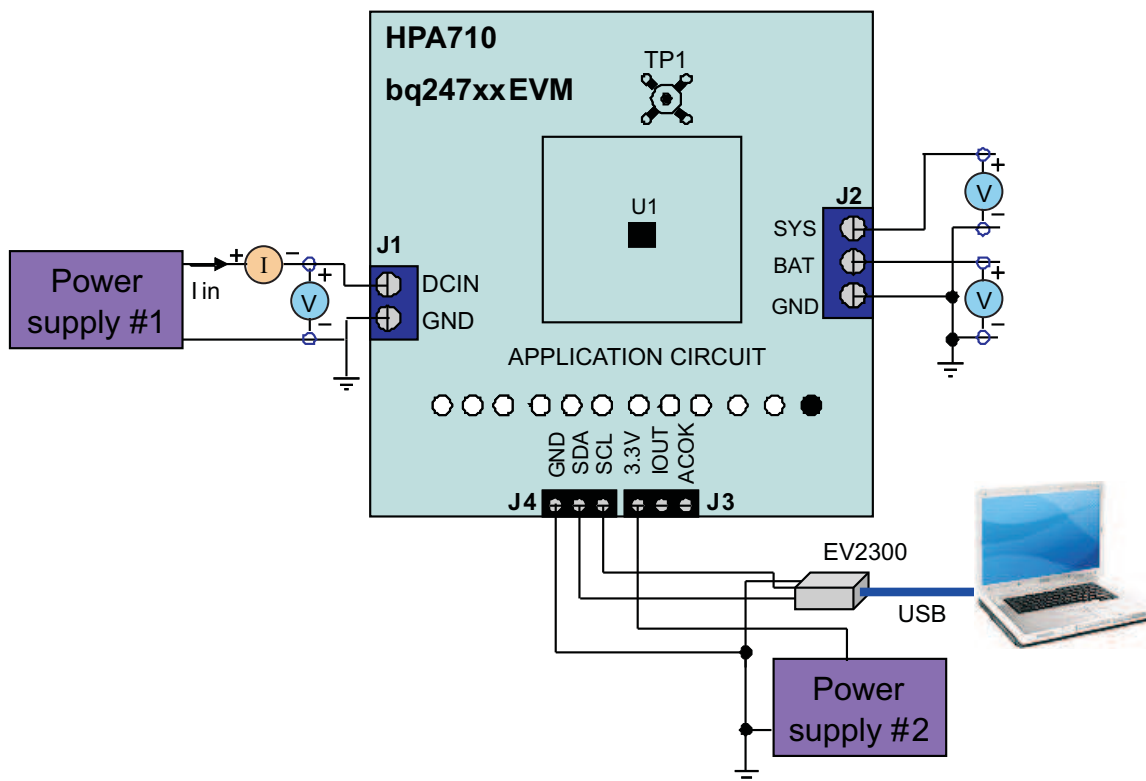

Figure 2. Original Test Setup for HPA710
10. After performing the preceding steps, the test setup for HPA710 is configured as is shown in Figure 2.